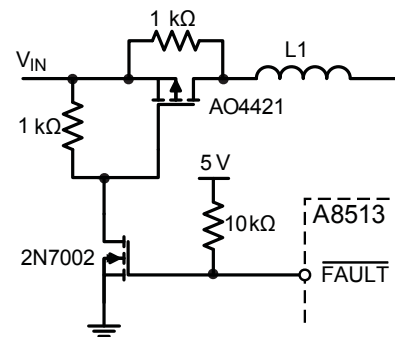

Figure 14. typical circuit for input disconnect switch.
**Undervoltage Protection** The OVP pin is also used to detect output undervoltage protection (UVP) against  $V_{OUT}$  short to GND. When the UVP fault is tripped, the fault flag is set (figure 14). Using an external PMOSFET interfaced to the  $\overline{FAULT}$  pin (figure 14), the user can disconnect the IC from  $V_{IN}$  during a fault event.